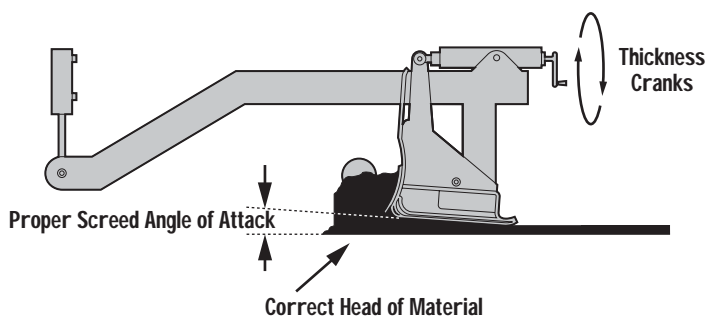

Figure 5-4. Manually Adjust Thickness of Mat
- Using the manual thickness adjustment cranks or hand cranks on the paver, null the screed and set the proper angle of attack (Figure 5-4).